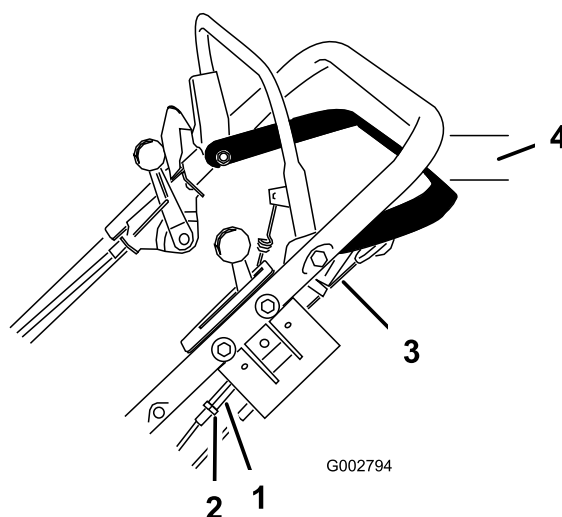

Figure 25
1. Loosen the nut that secures the turnbuckle (Figure 25).
2. Turn the turnbuckle until you remove the slack in the exposed cable (Figure 25).